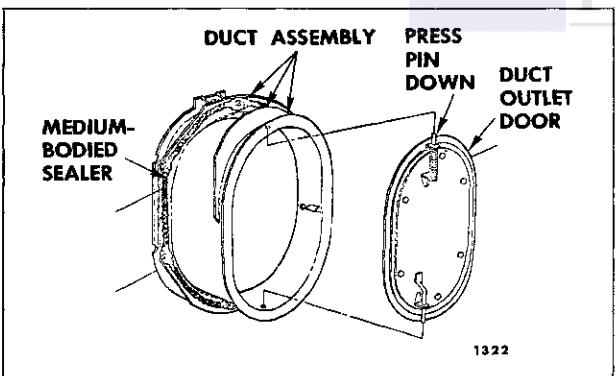

Fig. 5-4—Shroud Side Air Outlet Duct
4. To install, apply a bead of medium-bodied sealer around the entire inner flange of outlet assembly (Fig. 5-4) and reverse removal procedure.
2. Depress upper pivot pin spring (Fig. 5-4) in door and remove door assembly.